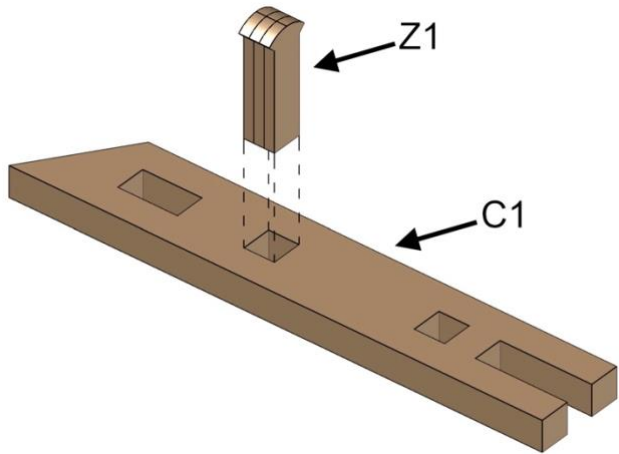

Fig. 33
- Align parts exactly as shown in Fig. 33.